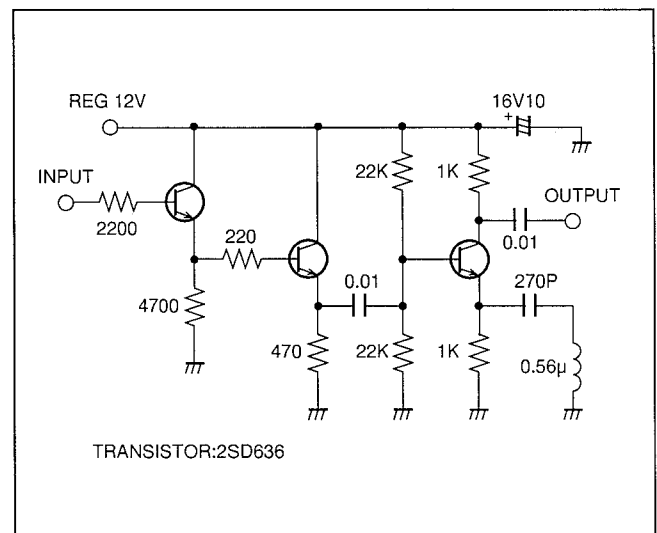

Fig. E29
2. Connect the service circuit to TL8008 as shown in Fig. E29.